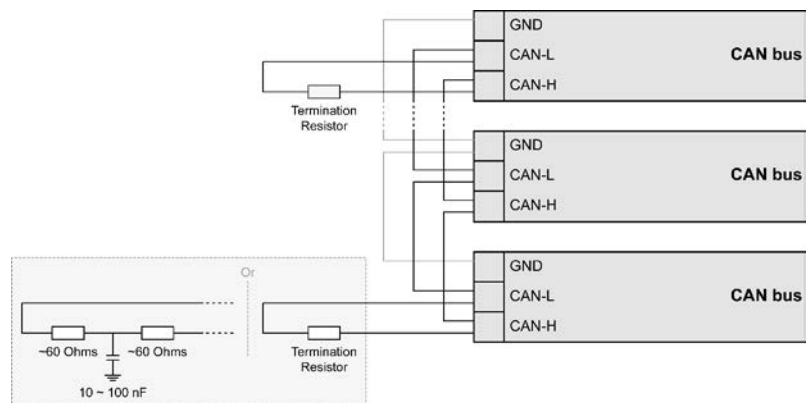

Fig. 65: CAN bus - termination
The termination resistor is connected between CAN-H and CAN-L ( Fig. 65).
- Divide the termination resistance into 2x60 Ohms with a center tap connected to ground via a capacitor of 10 to 100 nF ( Fig. 65).